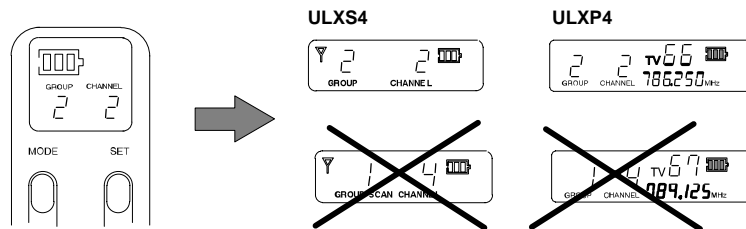

FIGURE 29
- Make sure the transmitter Group and Channel settings match the receiver Group and Channel settings, as shown in Figure 29. If using the Bodypack transmitter, clip it to your belt, waistband, or guitar strap.